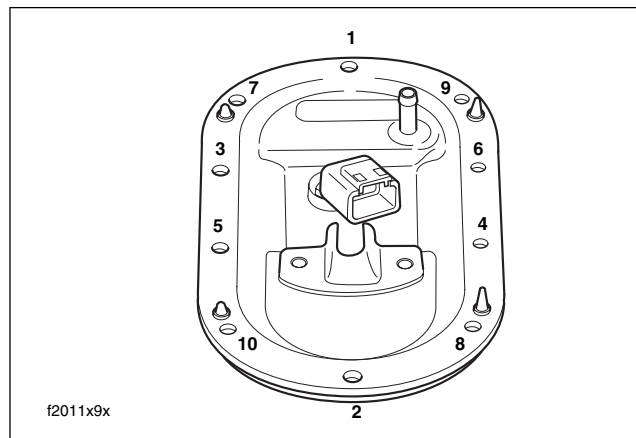

Figure 8-125. Canopy Torque Sequence (FLHR)
3. While pushing down on the canopy, align holes in canopy with those in fuel tank. Hand start ten **new** T20 TORX screws in perimeter of canopy. Tighten screws to 18-24 **in-lbs** (2.0-2.7 Nm) using the pattern shown in Figure 8-125.